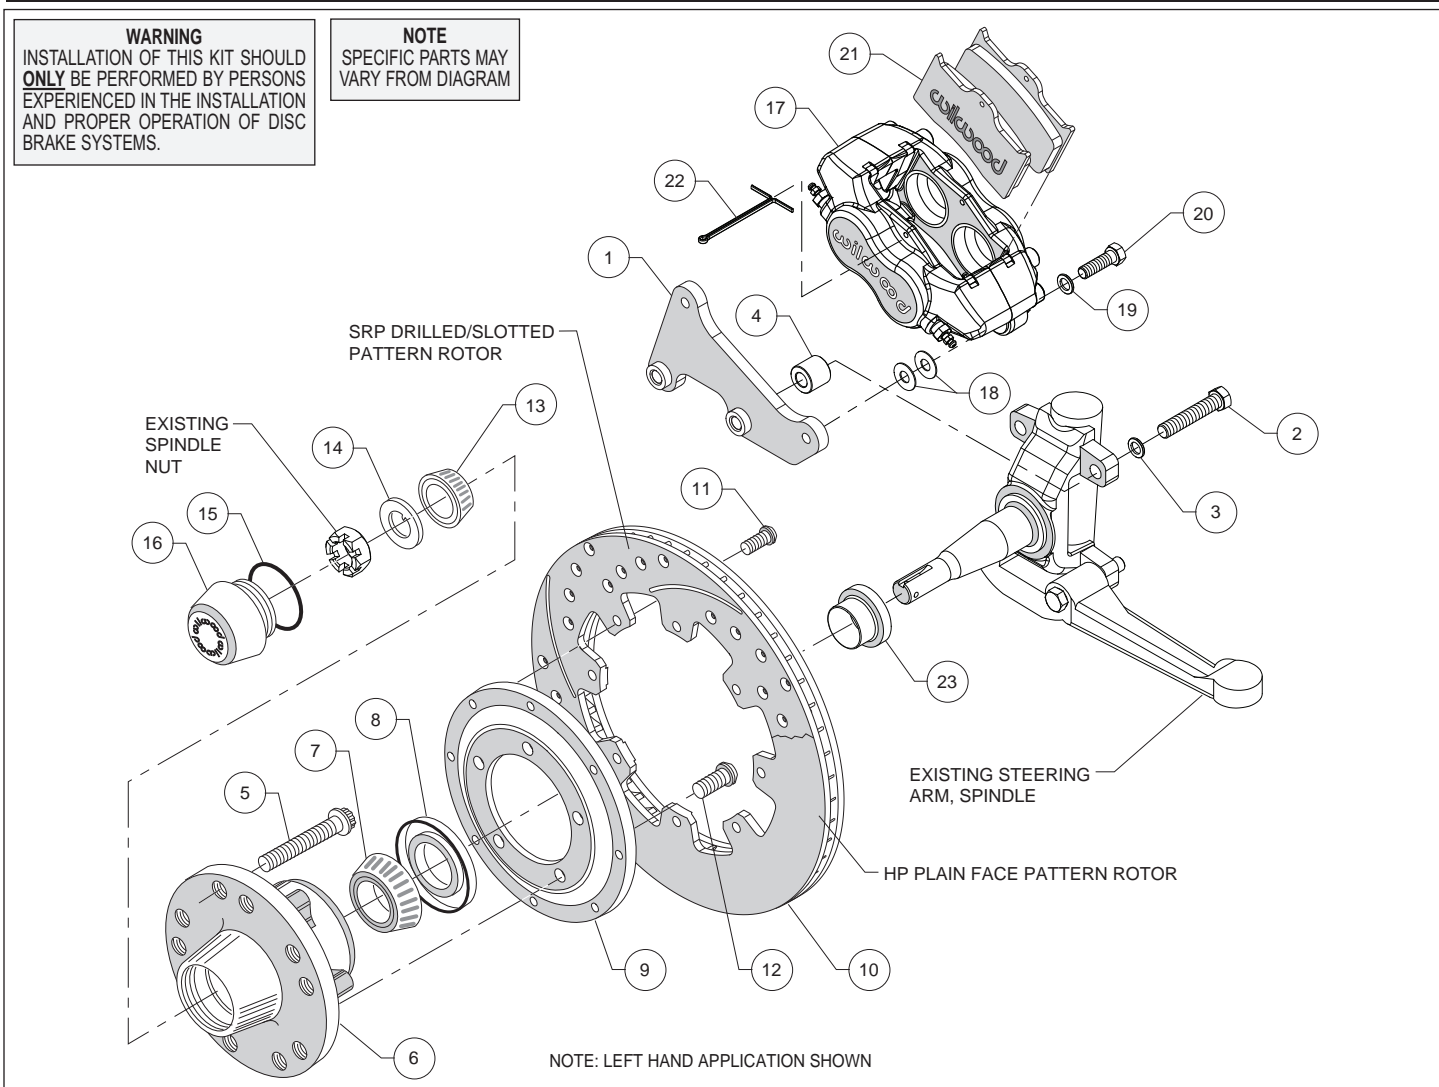
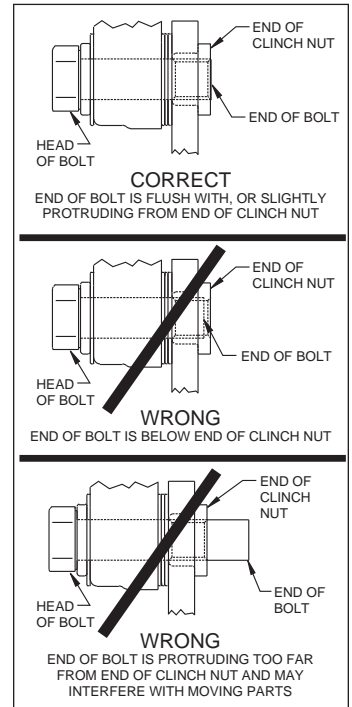

Figure 1. Typical Installation Configuration
Figure 3. Clinch Nut Engagement Diagram
Assembly Instructions (numbers in parenthesis refer to the parts list and Figure 1 on the preceding pages): **CAUTION:** All mounting bolts must fully engage clinch nuts. Be sure to check that all bolts are either flush or protruding through flanged side of clinch nut after shimming, Figure 3.
- Orient the caliper mount bracket (1) as shown in Figure 1, and install using bolts (2) and washers (3). Place a spacer (4) on each bolt between the bracket and caliper mounting bosses, Figure 1. Ensure that the flanged heads of the clinch nuts in the bracket are facing outboard. Temporarily tighten the mounting bolts. **NOTE:** The bracket must fit squarely against the mount bosses on the upright. Inspect for interference from casting irregularities, machining ridges, burrs, etc. Remove bolts one at a time, apply red *Loctite*[®] 271 to the threads and torque to 70 ft-lb.
- Slide the inner bearing spacer (23) onto the spindle with the larger O.D. facing inward, Figure 1 and Photo 1.
- Install wheel studs (5) into the hub (6), Photo 2. Torque to 77 ft-lb. **NOTE:** There are two five lug patterns in the hub (5 x 4.75 and 5 x 5.00). Ensure the correct hub stud pattern is being used to fit the wheel application.
- Pack the large inner bearing cone (7) with high temperature disc brake bearing grease (available from your local auto parts store) and install into the backside of the hub (6), Photo 3.
- Install the grease seal (8) by pressing into the backside of the hub (6), flush with the end of the hub, Photo 3.
- Orient the rotor (10) and the rotor adapter (9) as shown in Figure 1 and Photo 4. Attach the rotor to the adapter using bolts (11). Using an alternating sequence, apply red *Loctite*[®] 271 to the threads, and torque to 25 ft-lb.
- Mount the adapter/rotor assembly (9/10) to the hub (6) using bolts (12), as shown in Figure 1 and Photo 5. Using an alternating sequence, apply red *Loctite*® 271 to the threads, and torque to 45 ft-lb.
- Screw dust cap (16) into hub (6), Photo 7. Friction created by the o-ring (15) on the dust cap keeps it from unscrewing. **NOTE:** The O.D. of the existing OEM spindle washer may be larger than the I.D. of the dust cap not allowing it to seat against the hub face. Therefore, use the spindle washer (14) supplied with the kit instead of the OEM washer.
- NOTE:** Please reference the caution statement at the beginning of the assembly instructions. Mount the caliper (17) onto the caliper mounting bracket (1) using bolts (20) and washers (19), as shown in Figure 1. Initially place two .035" thick shims (18) on each bolt between the caliper and the bracket, Photo 8. Temporarily tighten the mounting bolts and view the rotor (10) through the top opening of the caliper. The rotor should be centered in the caliper, Photo 9. If not, adjust by adding or subtracting shims between the bracket and the caliper. Always use the same amount of shims on each of the two mounting bolts. **NOTE:** The end of each bolt must be flush with or slightly protruding from the head of the clinch nut, as shown in Figure 3. If necessary place spare shims between washer (18) and caliper mounting ear to achieve the proper clinch nut engagement. Later, after the calipers are bled, the caliper mounts bolts will be secured using red *Loctite*® 271.